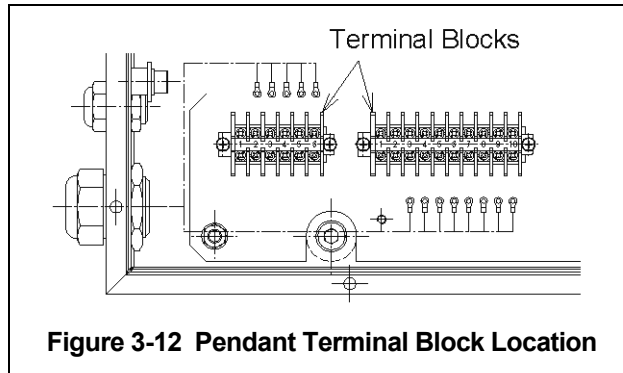

Figure 3-12 Pendant Terminal Block Location
- 1) Refer to **Figure 3-12**, **Figure 3-13** and the hoist wiring diagram for pendant connections.
- 5) Access to terminal strip: The terminal block/strip is mounted to the left of the VFD in the control box, as shown in **Figure 3-12**.